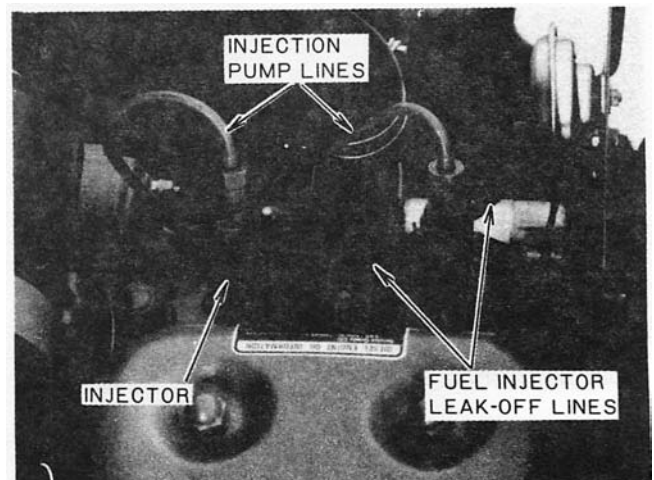

Figure 38 — Fuel Injector Leak-Off Lines
1. Clean all loose dirt from around the injectors and lines. Disconnect the leak-off lines from the injectors. See Figure 38.
3. Install the leak-off line, Figure 38. Tighten the leak-off line bolts to 22-30 lbs. ft. (30-41 N.m).